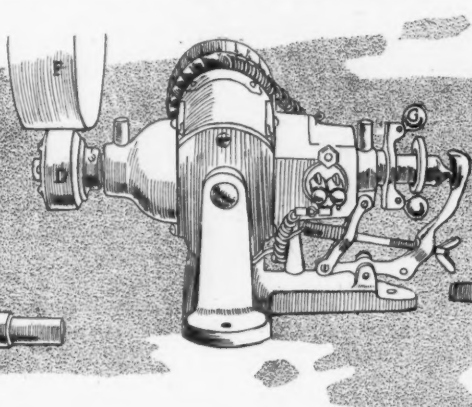

FIG. 16—BALL GOVERNED MOTSINGER
**Motsinger**—One of the products of this company is known as the auto sparker and is friction-driven dynamo. The instrument is made to furnish current for a motor of any number of cylinders. The armature shaft has at its end a disk, D, which presses against the flywheel, F, in Fig. 16. The spark is governed by means of a ball governor, G. When the shaft is revolving at great speed and the balls spread thus separating the friction surface from the flywheel and consequently discontinues supplying current until the engine slows down.